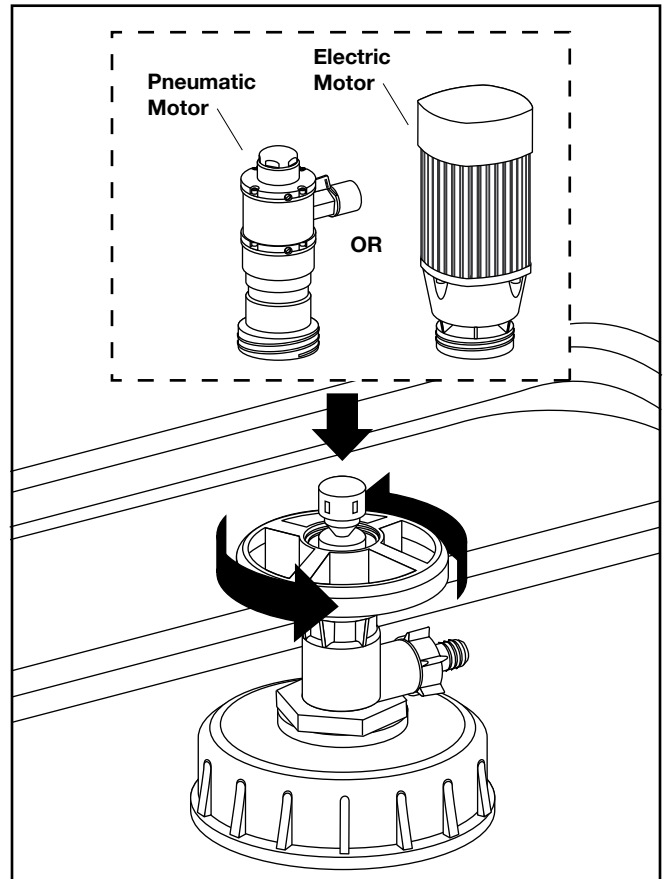

Figure 4: Installing the Motor
4. Take the Motor (Pneumatic or Electric) and carefully place it on top of the pump. Turn the paddle wheel counter-clockwise to thread into the motor. Rotate until tight but do not over tighten with force or tools (see Figure 4).